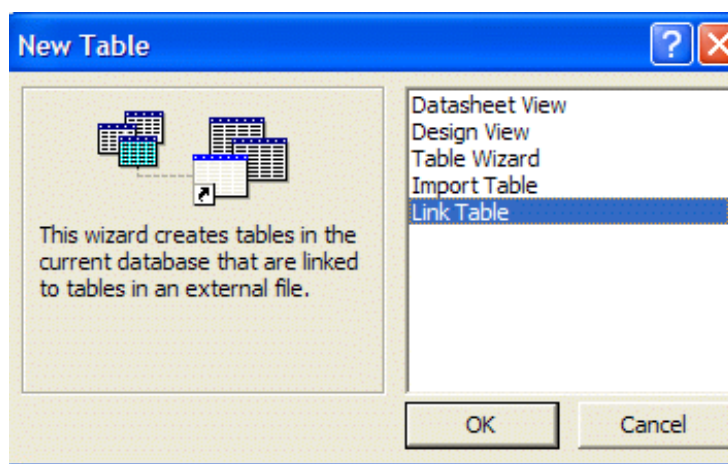

Figure 245. Link the Tables in the New Database to the Tables in the ISOTOPIC Database.
3. Develop a “Select” query that includes these four tables. Link as shown in Fig. 245. Use the fields identified in the table as part of the query. Be sure make the following adjustments to the query: